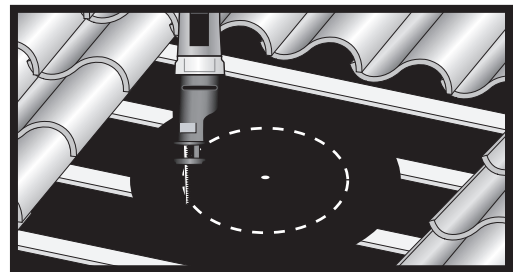

Figure 2
2. Outline the diameter of the hole that the pipe will pass through by turning the flashing upside down and marking the inside of the flashing unit. With a reciprocating saw, cut the diameter of the hole a **minimum of 1" larger than the area marked in previous step** (see Figure 2). **NOTE:** A larger hole can be cut to accommodate angled pipe installations.